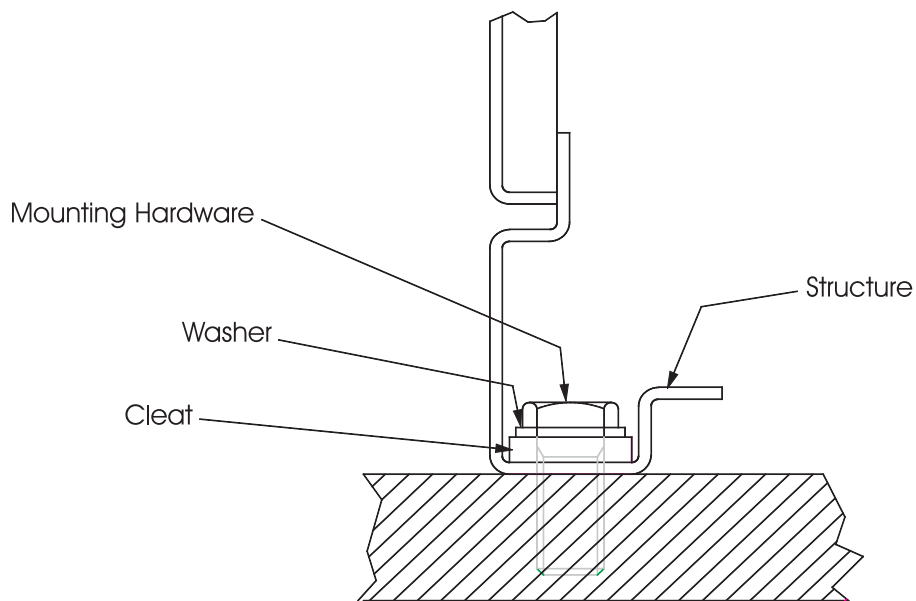

Figure 4-4 Seismic Tested and Approved Product Mounting Instructions
- Step 3:** Bolt the enclosure to the base. Use separate cleats (Option 42 only) if Seismic UBC Zone 4 certification is desired (Figure 4-4), and secure with 1/2-13 UNC Grade 5 hex bolts.